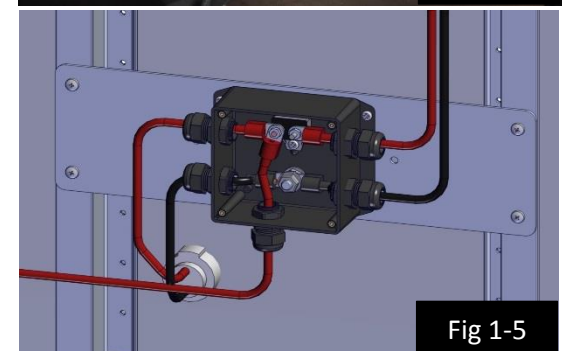

Fig 1-5
- If the wire is installed in a junction box. (See Fig 1-5)